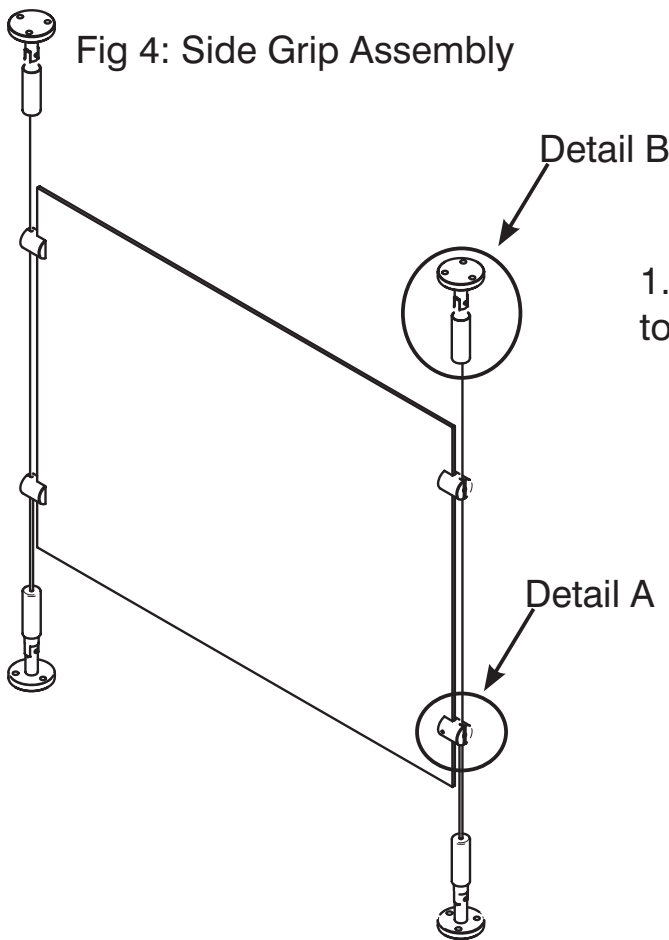

Fig. 4a:
1. Attach universal grip to POP Screen (See Fig 4a, step 1) using 2mm allen key (supplied) to tighten M4 grub screw.
5. Attach side grips to cable (see Fig. 4a step 2) and secure screen at the desired height.